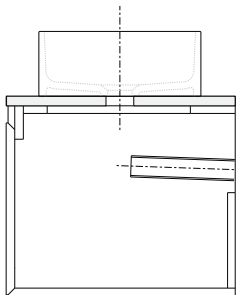

Figure 5.
3. Apply a neat generous bead of adhesive silicone sealant around the base flat of basin. See figure 5.